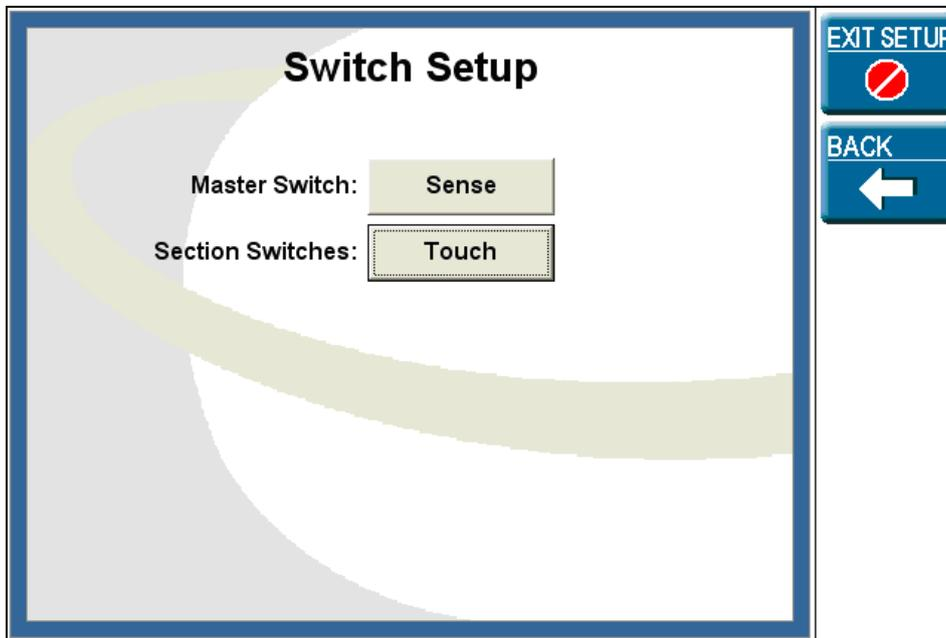

Figure 3-3: Switch Setup Window
- 2) Toggle Master Switch to **SENSE** as shown in Figure 3-3